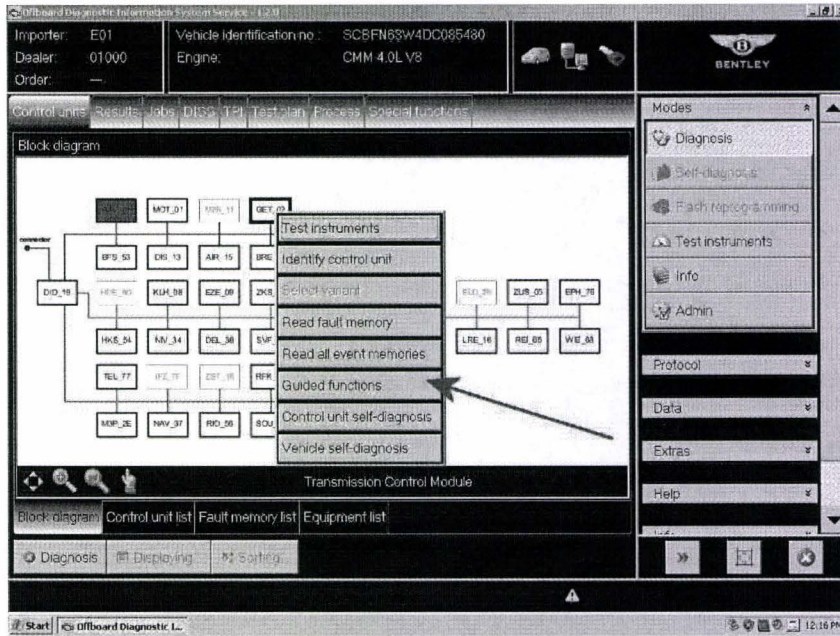

Figure 6
- From the drop down menu shown in Figure 6 select - Guided functions